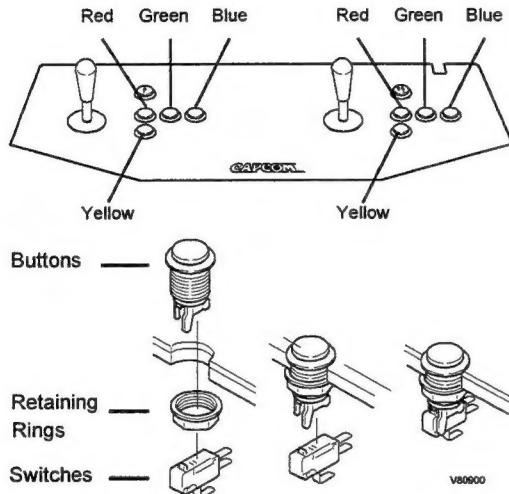

Figure 4: Control Panel Buttons and Switches
18. Install all buttons and retaining rings on the control panel as shown in Figure 4. Install two red buttons to the immediate right of each joystick, install two green buttons to the right of the red ones, and install two blue buttons to the right of the green ones.
19. Install the switches on the buttons as shown in figure 4. Orient the switches so that when a button is pressed, the plastic contact on the switch is depressed.